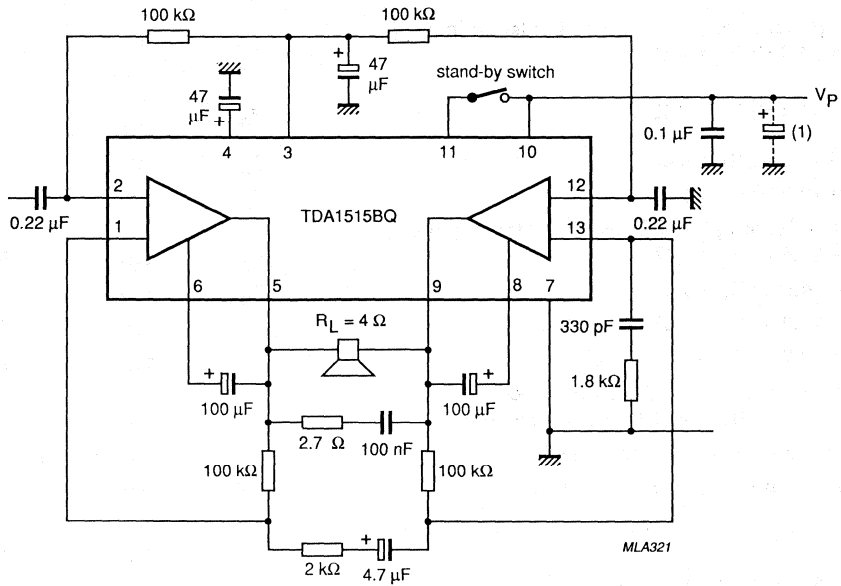

Fig. 3 Test/application circuit bridge tied load (BTL).
4. The input impedance in the test circuit (Fig. 3) is typ. 100 k Ω .